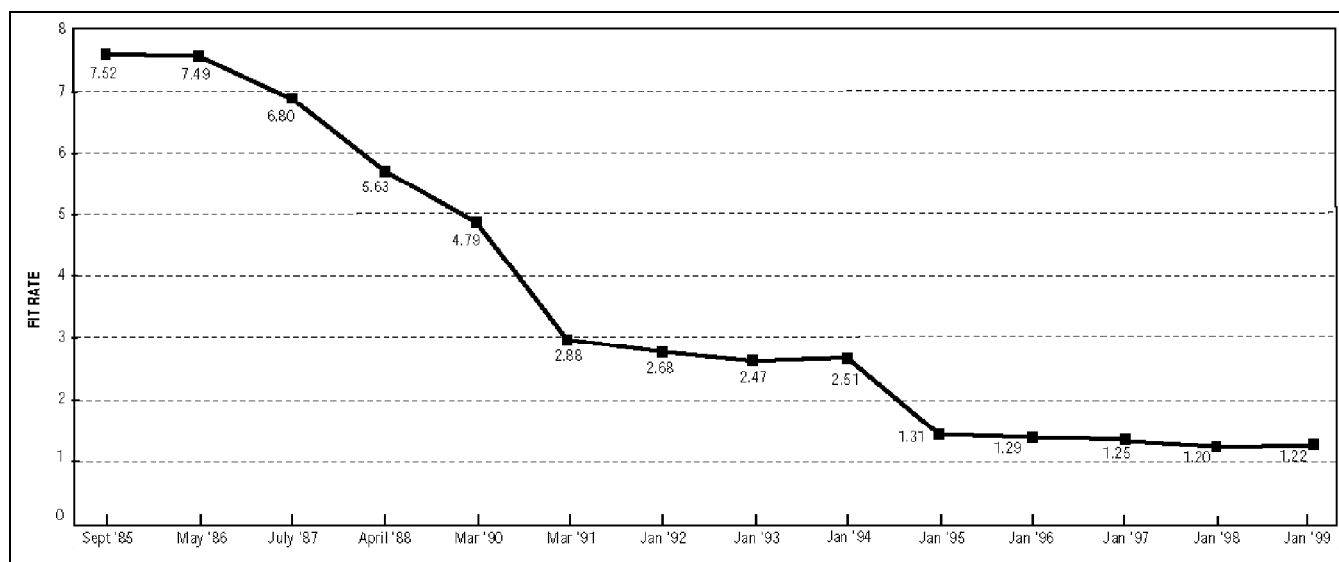

Figure 8. Maxim FIT Rates Over Time
**Figure 8** illustrates Maxim's Failures-in-Time (FIT) rate performance based on the Life Test Data summary in **Table 3**. It also highlights the progressive improvements made in reliability, a trend that we expect to continue, due to our continuous-improvement methodology.